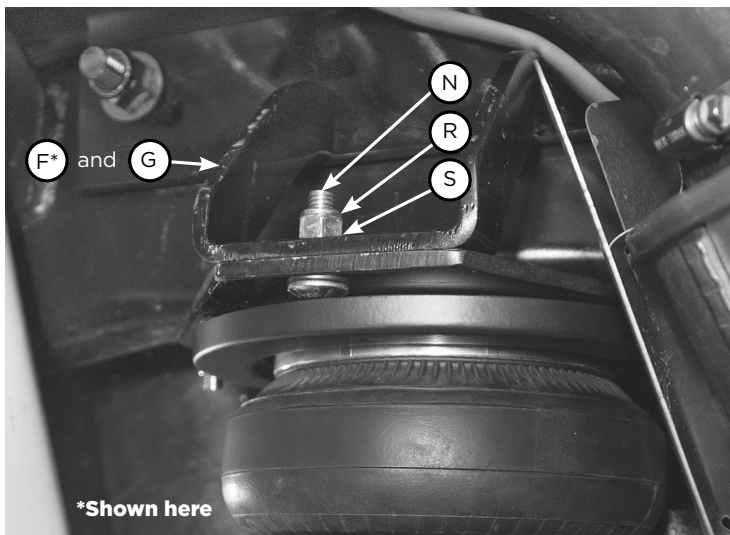

Fig. 33
- Align upper air spring brackets (E) with the upper frame braces (F [shown] & G) and the upper chassis brackets (D). Secure with flat washers (S), and nylon lock nuts (R) over the carriage bolts (N) (Figs. 33 & 34). Do not tighten. Repeat on both sides. With all hardware hand-tight, torque all 3/8" hardware to 16 lb.-ft. (22Nm). Torque the fifth wheel 5/8" hardware to 150 lb.-ft. (203Nm) for the included hardware (AA and BB). Torque to 180 lb.-ft. (244Nm) for the factory bolt.